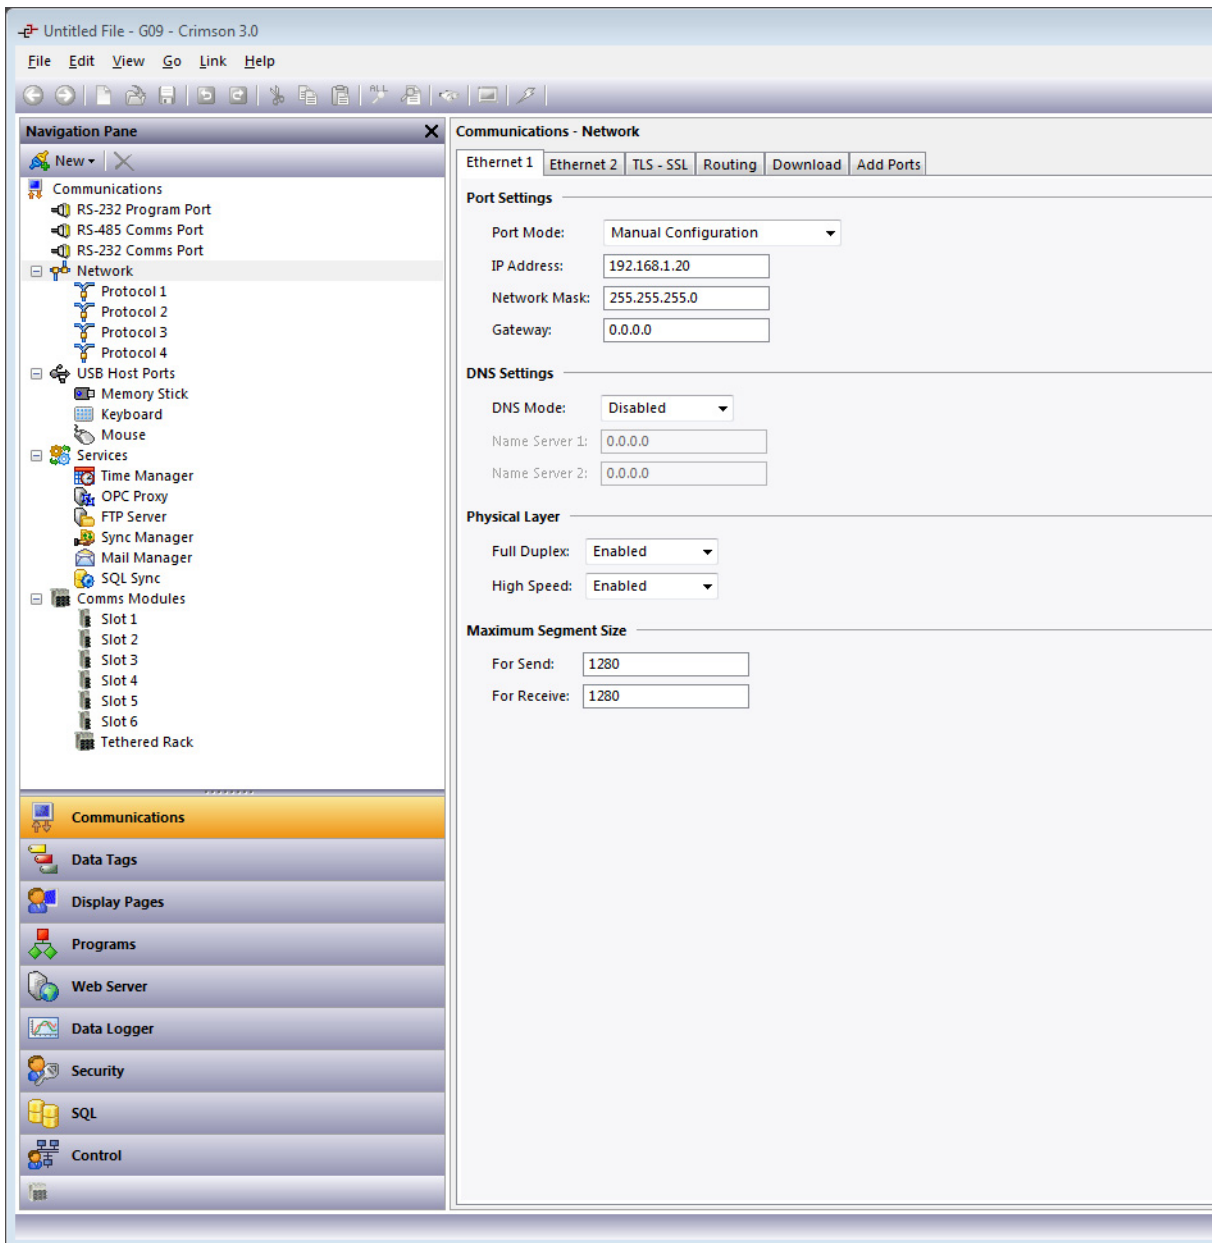

Figure 1.
1. Referencing Figure 1, go to the Navigation Pane and enable the Ethernet port in the Communications section of Crimson by navigating to Communications > Network > Ethernet1 (or Ethernet 2), as shown in Figure 1. The Communications - Network window is displayed.